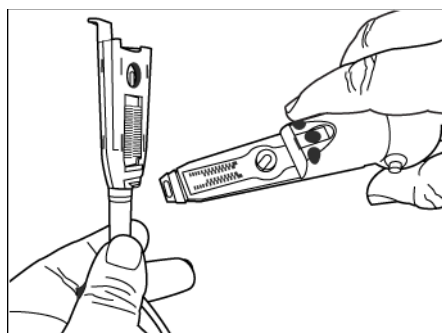

Fig. 8 Position the probe connector and handle in hand
- 4** Position the probe connector and handle as shown in Figure 8.